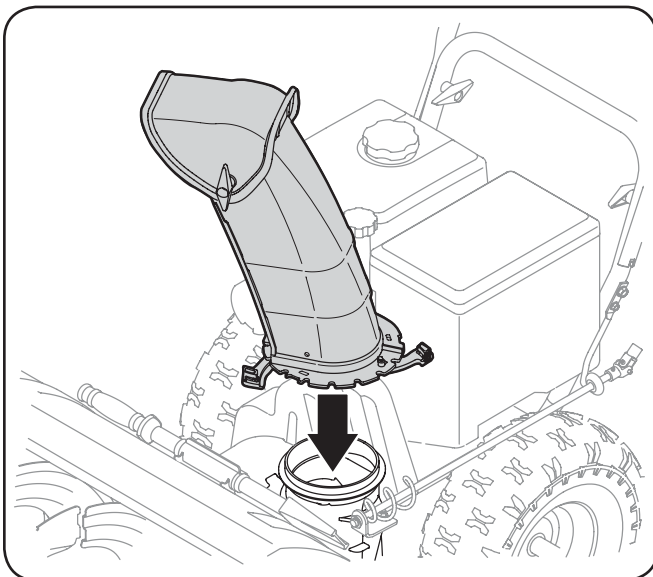

Figure 3-23
1. Position the chute assembly over the base. See Fig. 3-23.